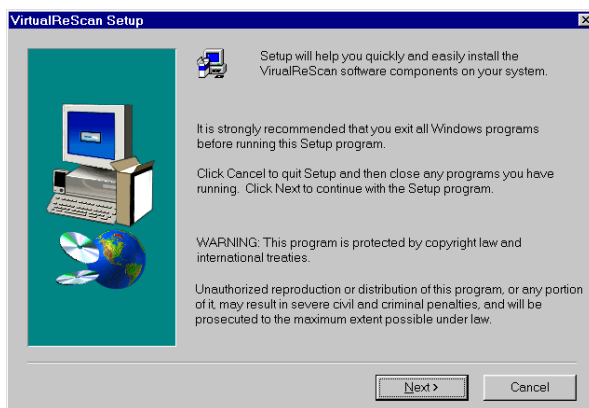

Figure 16. VirtualReScan Setup Dialog Box
- 6 Click **OK** to start the **VirtualReScan Setup** dialog box, as in Figure 16.